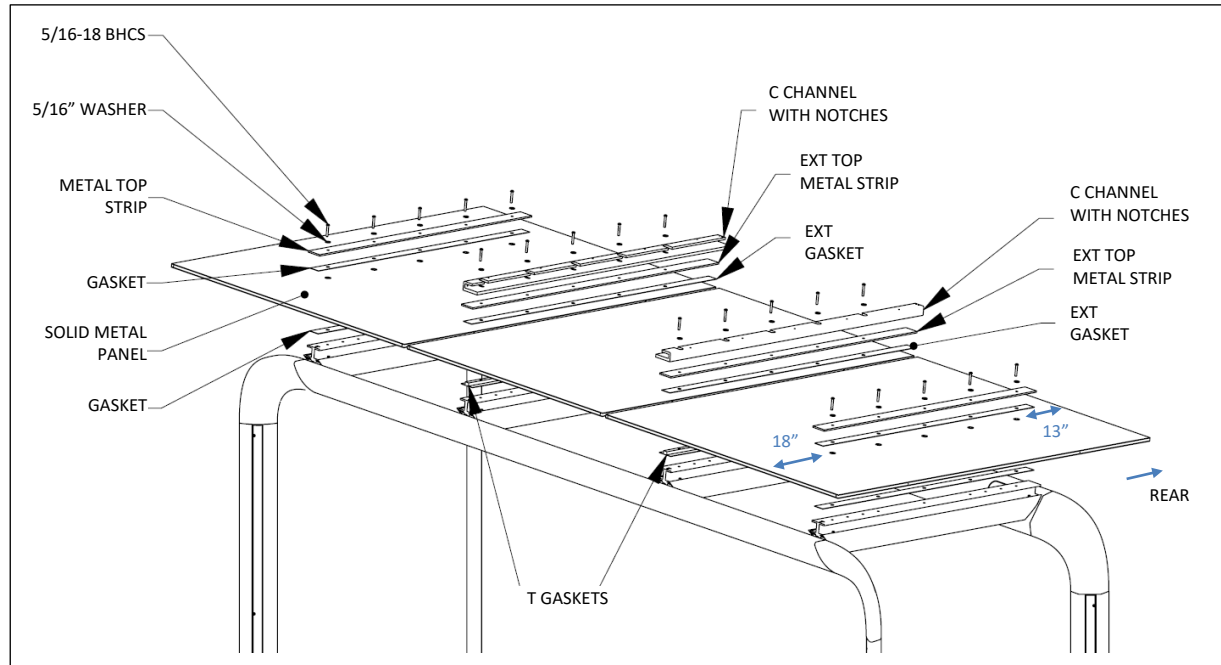

Fig. D2 – solid metal roof installation
2. Place gaskets on rafters. T-gaskets are installed in intermediate locations, See Fig.D2.
3. Place roof panels in position. See Fig. D2 for orientation of end panels.
4. Place gaskets on top of roof panels. See Fig. D2 for location of extended roof gaskets.
5. Place metal top strips in position on top of gaskets. See. Fig. D2 for location of extended metal top strips.